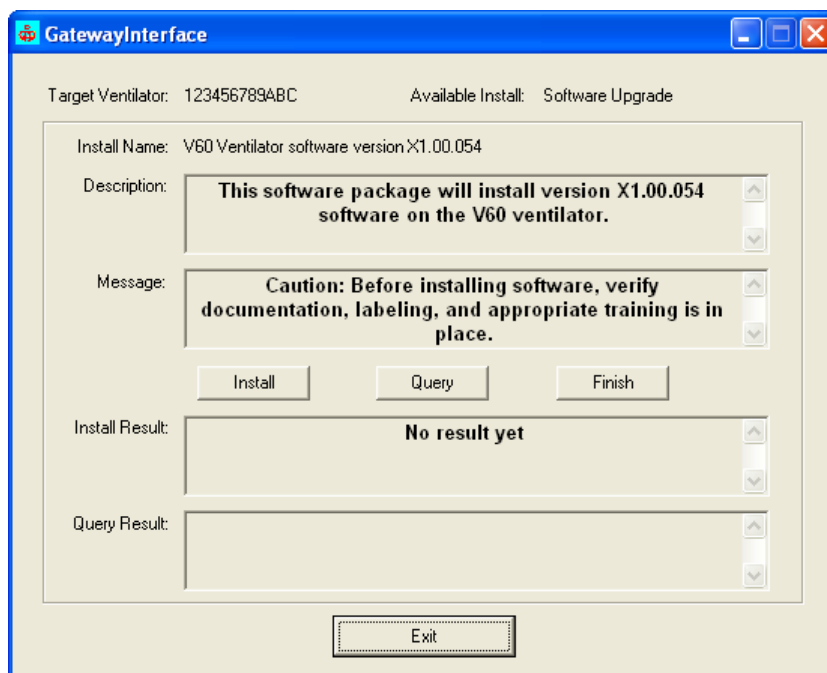

Figure A-12: Software Package Screen
5. A GatewayInterface screen appears on the PC monitor if a software package was previously suspended (Figure A-12).